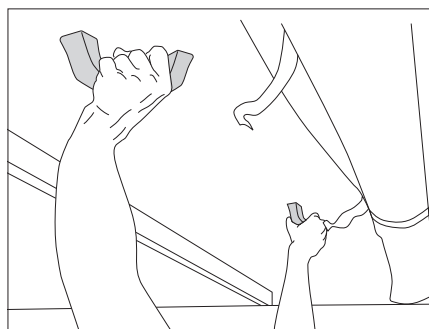

Fig. 39 Pushing up the pop-up roof
- Hold the grips with both hands and push the pop-up roof upwards (Fig. 39).